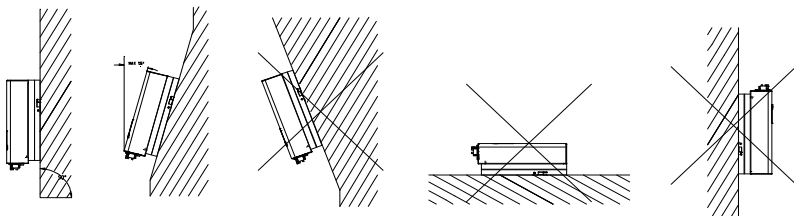

Figure 4.1 Mounting Method
Please mount the inverter correctly as shown in Figure 4.1 below.
(2)Please install the equipment under the guidance of Figure4.1. Vertical installation on floor level is recommended. Mount vertically or tilted backwards by max. 15° . Never install the inverter tilted forwards, sideways, horizontally or upside down.
(3) Install the inverter at eye level for convenience when checking the LCD display and possible maintenance activities.